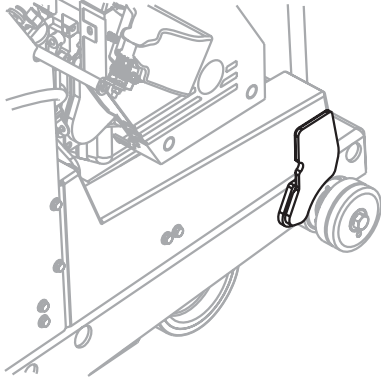

Figure 17. Tapered Mounting Clip
1. Slide the Blade Guard straight downward to engage the tapered Mounting Clip. (See Figure 17.)